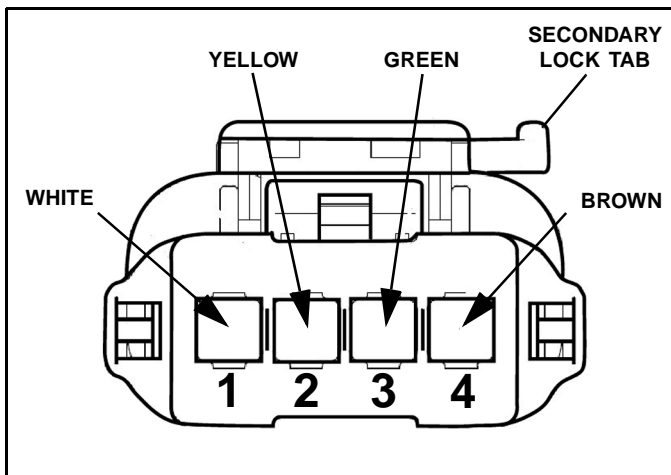

Figure 1-5
14. Remove blue pin lock from female connector. Push the pins on the end of each of the four wires into the back side of the connector (the end with recessed light blue seal). (See Figure 1-5 for pinning).